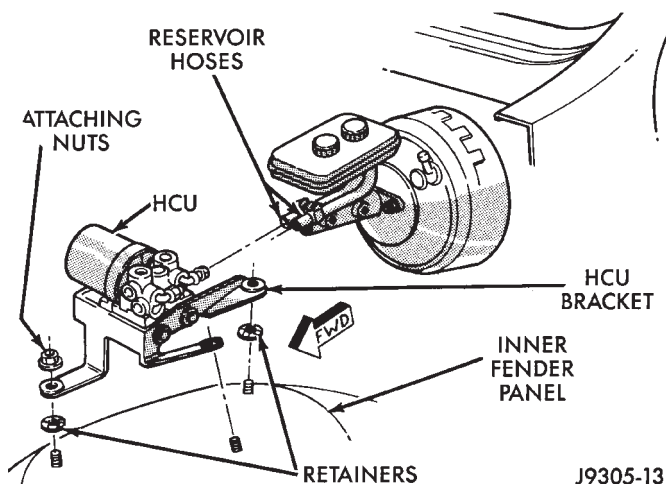

Fig. 7 HCU Bracket Attachment
(7) Remove combination valve. Refer to procedure in this section.
(8) Move harness wires, hoses, lines aside for access to HCU bracket nuts (Fig. 7).
(9) Remove nuts attaching HCU bracket to inner fender panel (Fig. 7).
(10) Mark or tag HCU hydraulic lines for assembly reference.
(11) Disconnect hydraulic lines and hoses at HCU.
(12) Remove HCU. Lift HCU up and off mounting bracket studs. Then work it past brakelines and master cylinder to remove it.